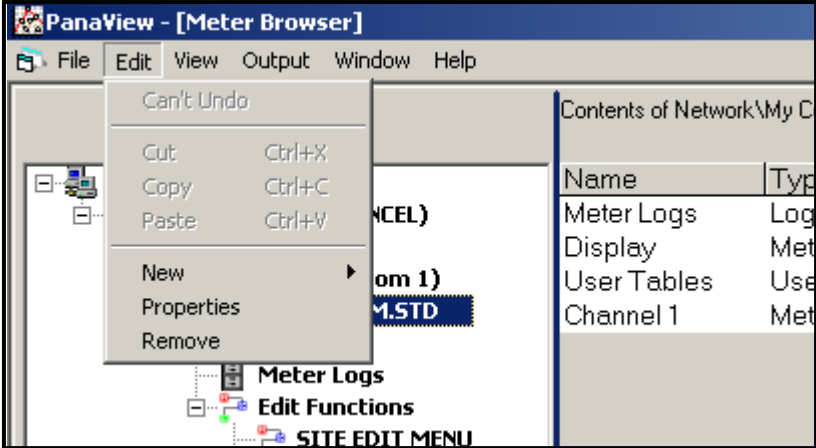

Figure 49: Properties Option
- 2. Right-click on the highlighted XGM868i and select the *Properties* option, as shown in Figure 49.